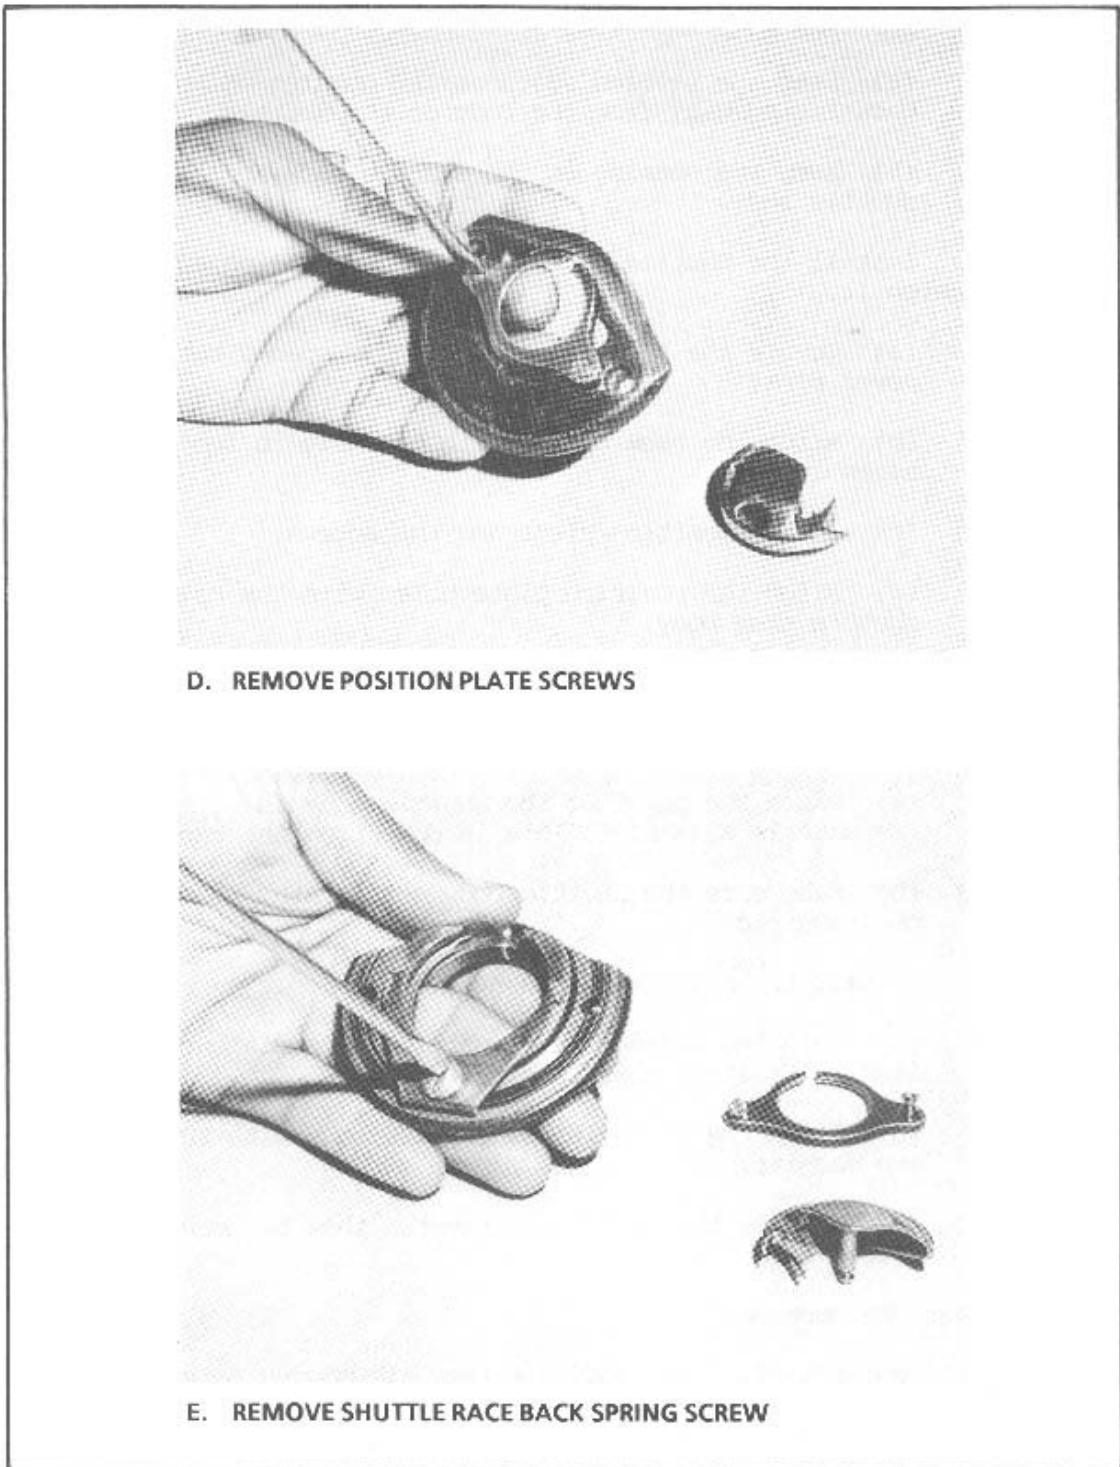

Figure 3-86
- (1) Hold the shuttle race assembly in your left hand with the cap up and the front side to the left. (See Figure 3-86)